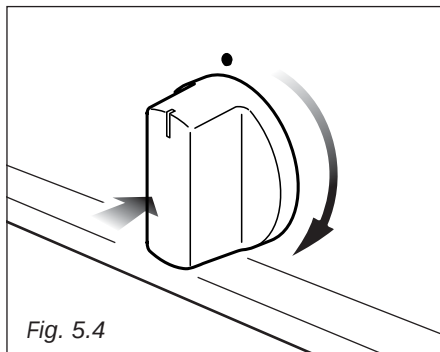

Fig. 5.4
- 2) Lightly press and turn the temperature knob clockwise (fig. 5.4) to the  position (fig. 5.1).